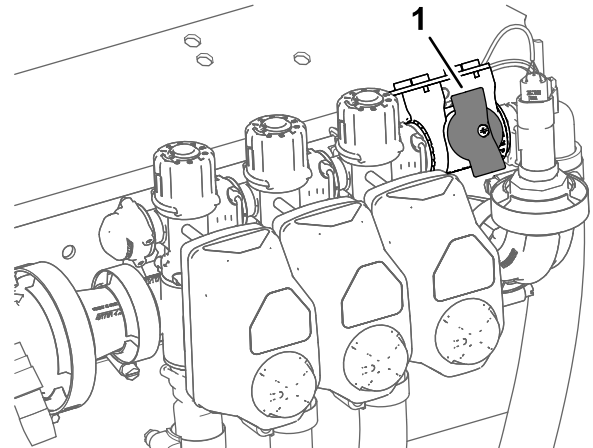

Figure 39
2. Rotate the knob for the section-bypass shutoff valve to the closed position (Figure 39).